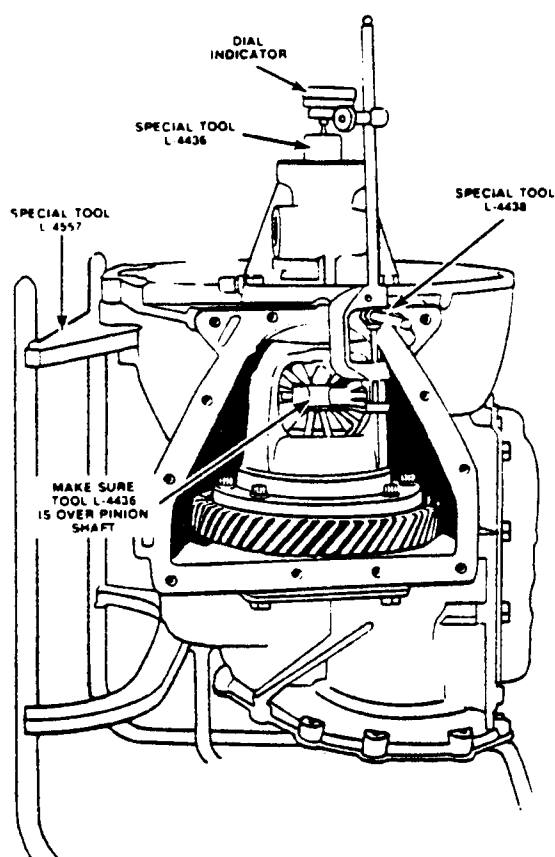

FIGURE 10
4. Position the transaxle assembly vertically on the support stand and install Tool L-4436 into the extension, reference Figure 10.
6. Attach a dial indicator to the case and zero the indicator on the flat end of Tool L-4436, reference Figure 10.